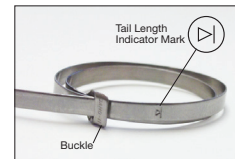

Fig. 3
- B. Pull on band until mark ( ) is within approximately .250 inch (6.4mm) of buckle slot (Figure 3). The band may be tightened further if desired.
NOTE: Prepared band should have this (▷) mark visible approximately where shown in Figure 3.